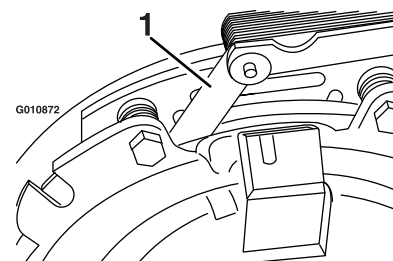
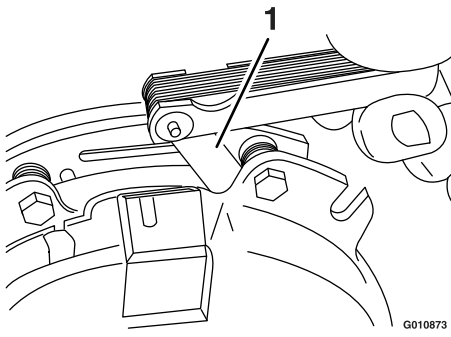

Figure 75
Figure 76
- E. Using a 0.25 mm (0.01 inch) thick feeler gauge, verify that a gap is present between the rotor and the armature face on both sides of the brake pole as shown in Figure 75 and Figure 76.